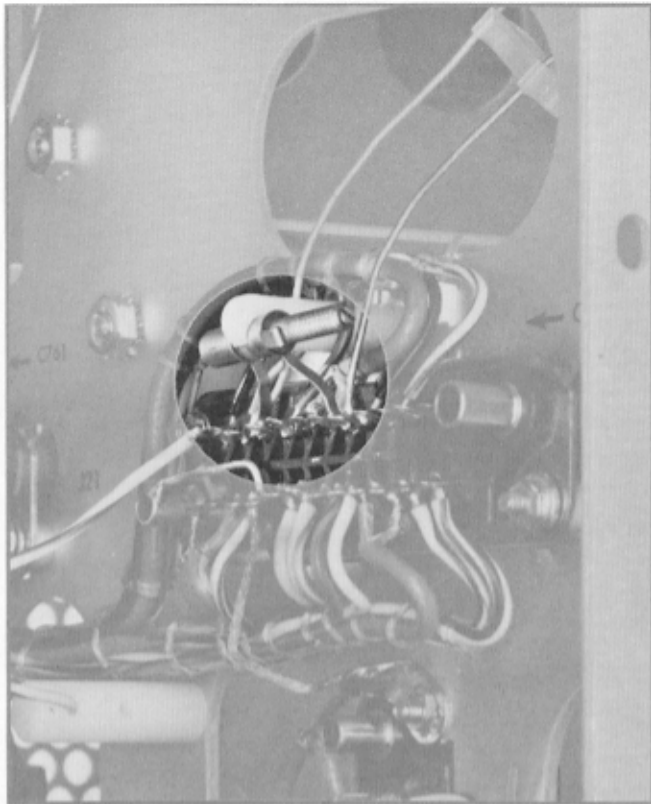

Fig. 5-13. Normal location of C760, step 9a.
Use the low-capacitance tool (item 16) to adjust C760 for best flat-topped square-wave display. C760 is shown in Figs. 5-13 and 5-14. Proper compensation is shown in Fig. 5-15. It may be necessary to position the leads to the deflection plates to aid in obtaining a good square-wave
display. C760 is to be located as in Fig. 5-13 unless correct compensation is impossible; then move it to the position between terminal 21 and chassis as shown in Fig. 5-14.